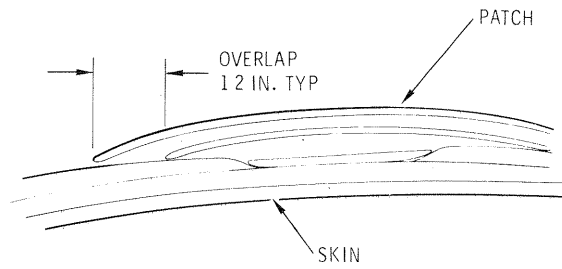

FIGURE 5
- c. Cut three (3) plies of fiberglass cloth to necessary size to fill abraded area. Round off corners of glass cloth to eliminate sharp edges.
3. Follow with an additional coating of resin and cover with a third ply of fiberglass cloth to complete the patch as shown in Figure 5. Each layer of added fiberglass must overlap the previous layer. The top layer of fiberglass cloth must overlap at least one-half inch.